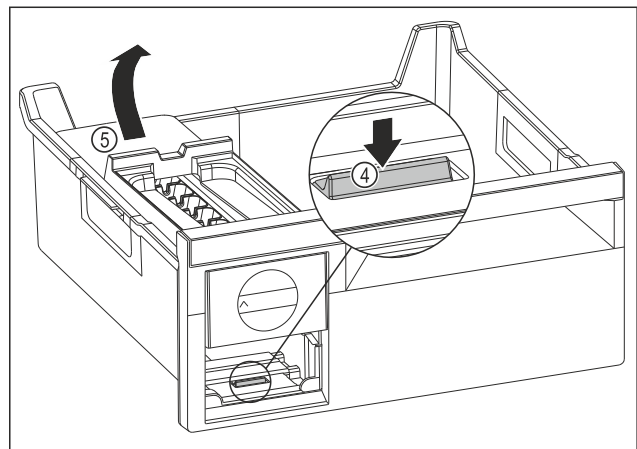

Fig. 165
- ▶ Removing the EasyTwist-Ice body: Use your finger to press the tab Fig. 165 (4) downward while at the same time lifting the EasyTwist-Ice body Fig. 165 (5) from behind with the other hand.